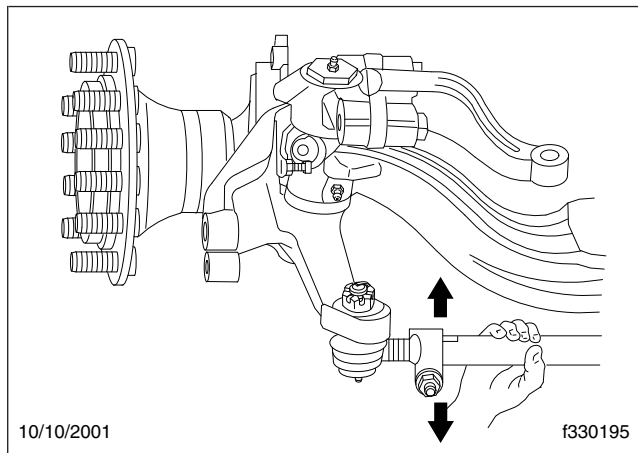

Fig. 6, Check Movement of Tie Rod End
4. Position yourself directly below the ball stud socket. Using both hands, grab the end as close to the socket as possible, no more than 6 inches (15.2 cm) from the end. Firmly apply about 100 pounds of hand pressure in an up and down motion several times. When moving the assembly, check for any movement at both tie rod ends. See **Fig. 6**.